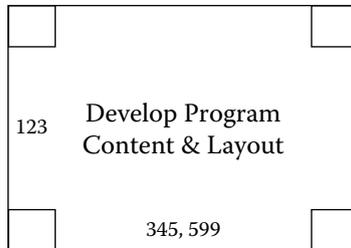

Figure 9.36 Additional predecessor added.
Before we can combine the networks, we need to find any connections you have to (1) another sub-team's network and (2) the project timeline. It is time for you to make these connections by reviewing your activities' 'outside predecessors.' Again, the question is: what activities (outside my own) need to finish before I can start this activity? As you find your predecessors, write them with your own network's predecessors on the Post-Its (Figure 9.36).